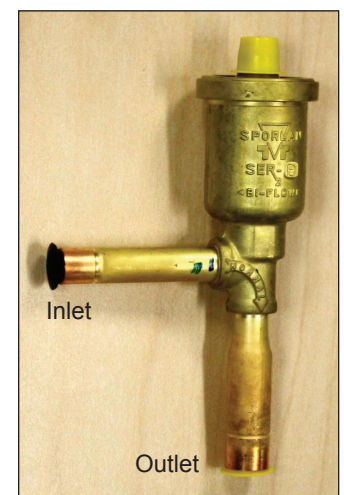

Fig. 2: Refrigeration Valve
- The inlet and outlet of the refrigeration valve are depicted in Figure 2.
- There are four refrigeration valves currently in use today: SER AA, SER A, SER B, and SER C. One of these valve names will be engraved on the valve stator—an example of this can be seen on the SER B valve shown in Figure 2).